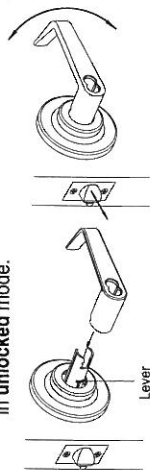

Figure 1
B. Turn the outside lever as (Figure 1) and retract the latchbolt in order to make sure the lock is in **unlocked** mode.